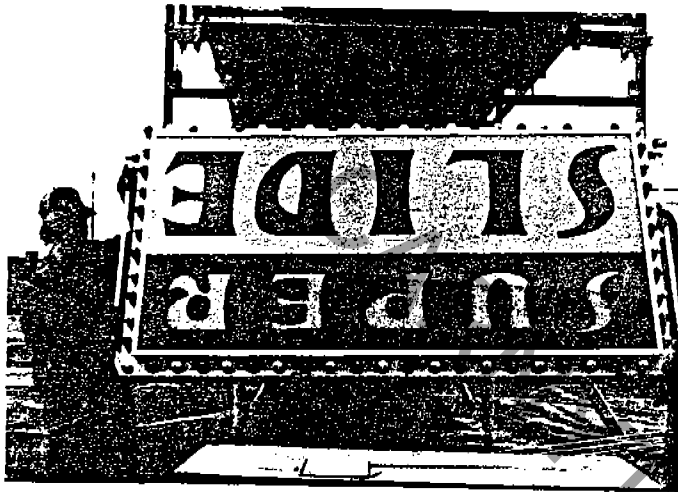

Fig. 24
- Note:* The lettering on the sign must be upside down to the installer. (Fig. 24)